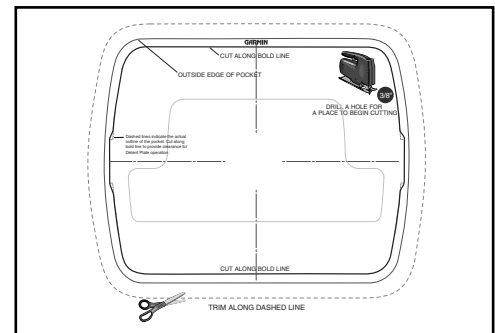

Figure 1
2. Drill a 3/8" hole at the location indicated on the template as a starting point. Then, using the Jig Saw, cut the panel along the bold line. Be sure that your initial cut does not go outside the line that indicates the inside edge of the pocket (Figure 1).